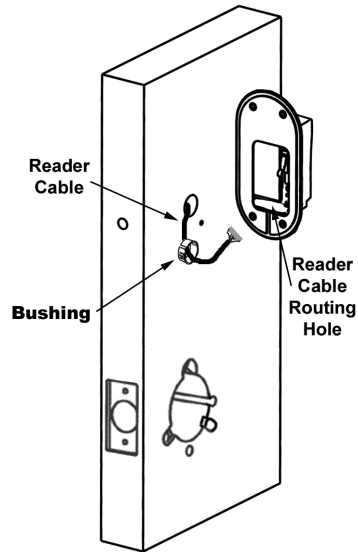
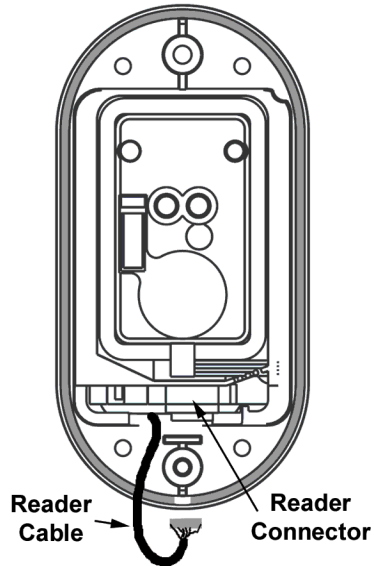

Figure 2-32 – Reader Cable Routing
Figure 2-33 – Reader Cable Connection
2.11.2 Before mounting the Reader, the Reader Cable must be routed through Reader Cable Routing Hole on the Reader Base plate (Figure 2-32).
2.11.2.1 If installing on a metal door, make certain that the plastic Bushing is installed in the Reader Hole on the Reader side of the door (Figure 2-32).
2.11.2.2 Route the Reader Cable from the Reader Hole in the door through the back of the reader into Reader Cable Routing Hole near the bottom of the Reader (Figure 2-32 & Figure 2-33).
2.11.2.3 Connect the Reader Cable to the Reader Connector from the front side of the reader (Figure 2-33).